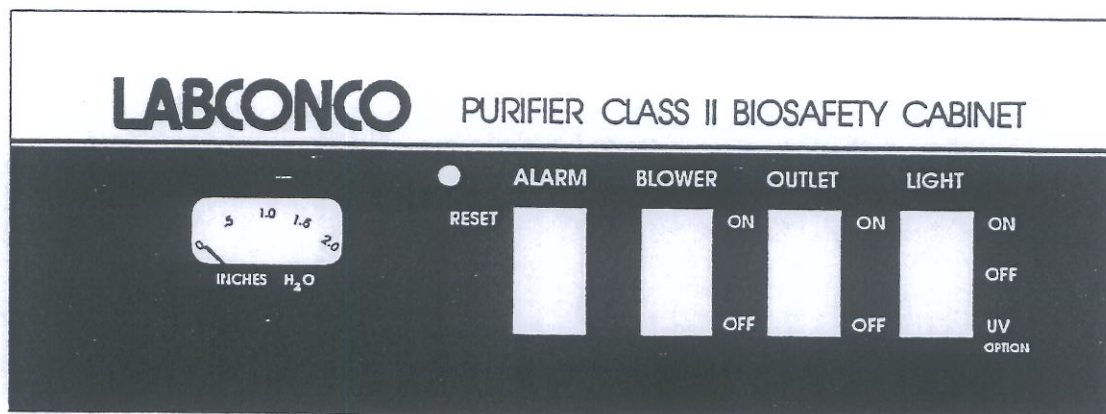

Figure 13
- (1) To start the Type B3 Purifier that is equipped with an alarm, turn the blower switch to “On”, as shown in Figure 13. **The alarm will sound. This is normal.**
- (2) Hold the Alarm Switch to the ‘Reset’ position for approximately 5 seconds. When the Alarm switch is released, the cabinet blower should continue to operate, and the alarm should be silent.